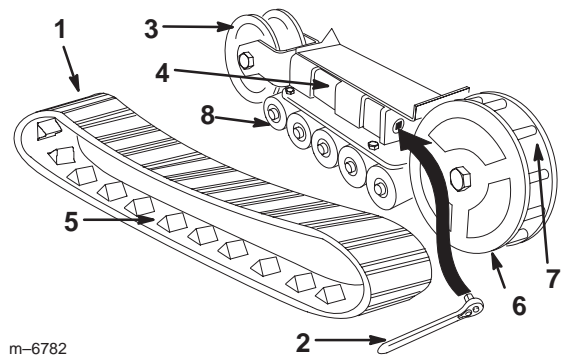

Figure 47
- Using a 1/2 inch drive socket (Fig. 47), turn the tensioning screw counter-clockwise until the distance between the tension nut and the back of the tension tube (Fig. 45) is 2-3/4 inches (7 cm).
- Push the tension wheel toward the rear of the unit to move the fork tube against the frame (Fig. 47). (If it does not touch the frame, continue turning the tensioning screw until it does.)
- When the track is off of the tension wheel, remove it from the drive sprocket and road wheels (Fig. 47).
- Beginning at the drive sprocket, coil the new track around the sprocket, ensuring that the lugs on the track fit between the spacers on the sprocket (Fig. 47).
- Push the track under and between the road wheels (Fig. 47).